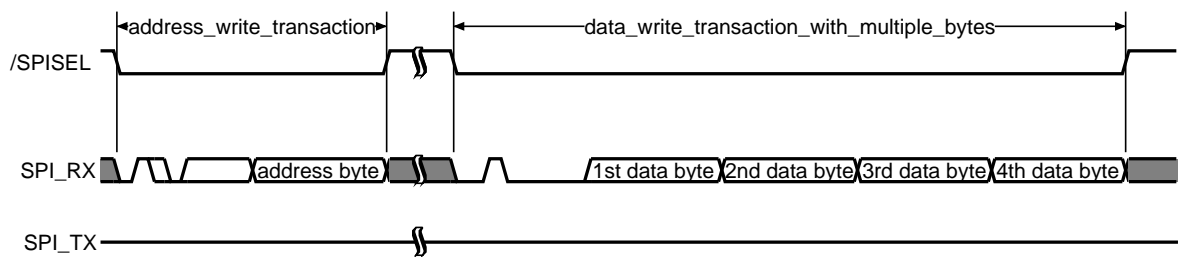

Figure 2.16: Register write access with a 40 bit transaction
3. Another way of writing multiple bytes into the same register is available with the 40 bit write transaction (Figure 2.16). With the first transaction (16 bits) the SPI master specifies the register address (control byte is '01X0CCCC'). Afterwards, four new register values are transferred from the SPI master to XHFC-1SU (control byte is '0010 0000').